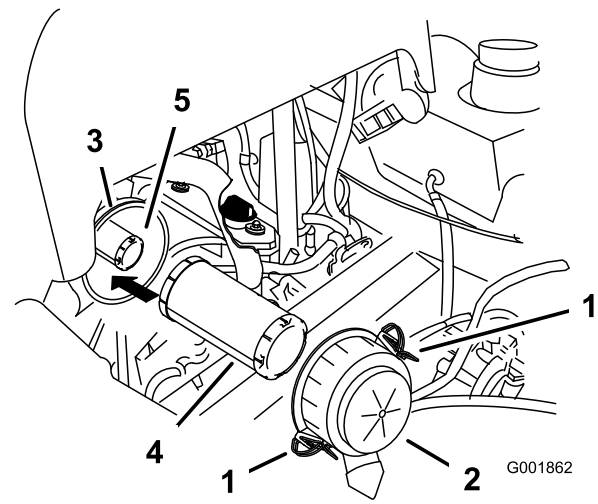

Figure 44
4. Release the latches on the air cleaner and pull the air cleaner cover off of the air cleaner body (Figure 44).
6. Gently slide the primary filter out of the air cleaner body (Figure 44). Avoid knocking the filter into the side of the body.
1. Do not clean the paper filter, replace it (Figure 44).
2. If the safety filter is being replaced, carefully slide it into the filter body (Figure 44).
3. Carefully slide the primary filter over the safety filter (Figure 44). Ensure that it is fully seated by pushing on the outer rim of the filter while installing it.